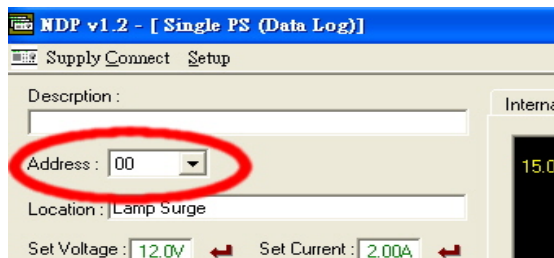

Figure 6.5.1a
8. By choosing the address in the **Address** field (Figure 6.5.1a) you can input the desired settings for each power supply as given in Section 6.2 on page 9.